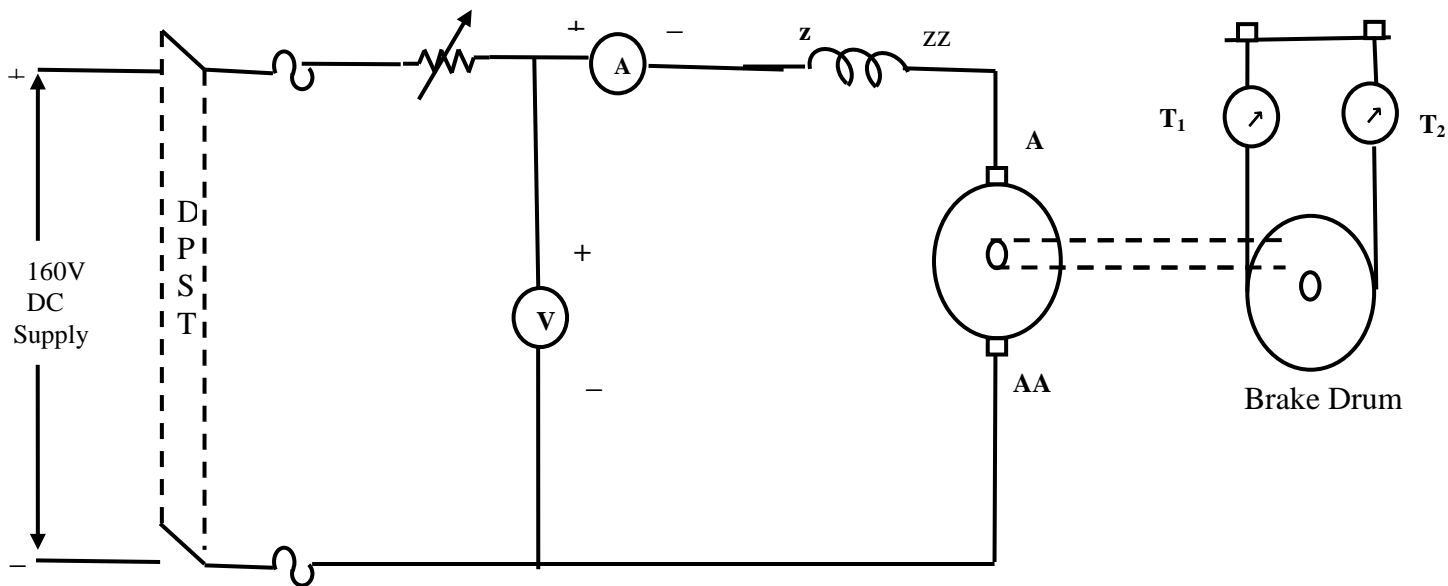

Figure.1
- 1) Circuit is connected as per the circuit diagram(Fig.1) for dc operation.